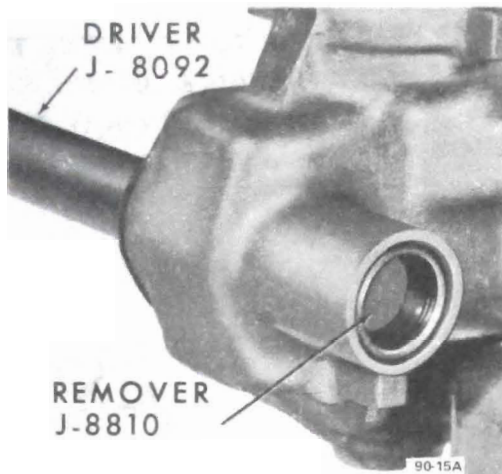

Figure 90-8 Installing Pitman Shaft Bushing
5. Inspect teeth of ball nut and pitman shaft for pitting or scoring which would require replacement of ball nut or pitman shaft. Inspect pitman shaft bushing in housing for excessive wear or scoring. If necessary, remove pitman shaft bushing using Remover J-8810 and driver handle J-8092. Install new bushing using Installer J-8811 with driver handle J-8092. See Figure 90-8.